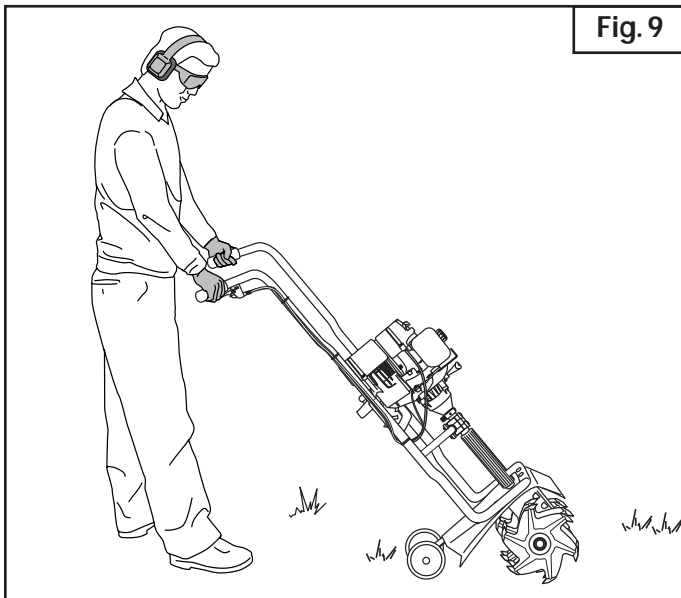

Fig. 9
4. Holding both of the handlebar grips firmly, slowly lower the cultivator until the tines make contact with the ground (Fig. 9).